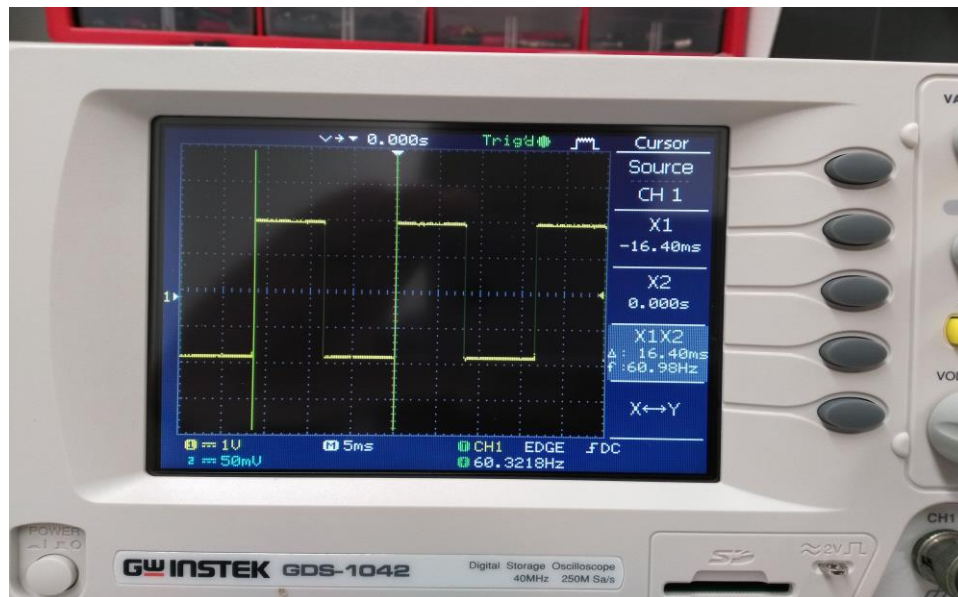

Figure 6: Our GW Instek Oscilloscope measuring the Period with Vertical Cursors.
- 15) Make sure that your bars are set vertically by pressing **X \leftrightarrow Y** (if needed). We are going to measure the period of our function; that is the time it takes to make one full oscillation. Using the **variable knob** place one bar at the start of your waveform, and one at the end of its oscillation (Figure 6 below). You can change the bar by selecting **X1 / X2** on the menu.